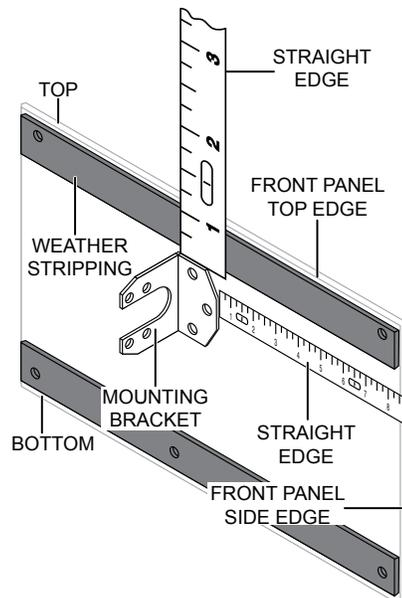

Figure 4. Positioning Mounting Bracket
2. Using a straight-edge ruler, position the mounting bracket (Figure 4) 1" from panel top (below weather stripping) and 8.5" from the panel side towards the center.